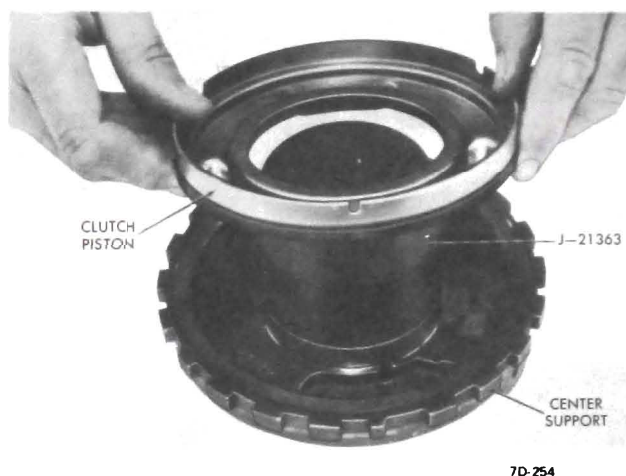

Figure 7D-178
3. Install inner seal protector, Tool J-21363, on the center support hub, install piston. See Figure 7D-178.
4. Install spring guide and three (3) release springs into the piston. See Figure 7D-172.